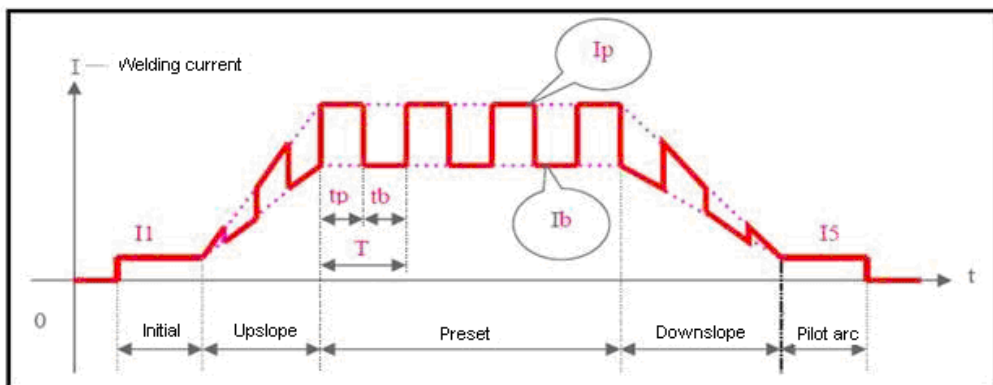

Figure 12: TIG DC pulsed current
- **Pulse rate ( $1/T$ ):** according to the formula  $T = t_p + t_b$ . value according to client welding technology, range of 0.2-200 Hz (see Fig. 12).
In the case of TIG AC welding, the gas pre-flow time and the outflow time are the same as in DC TIG welding. Other parameters are described below (according to figure 12):